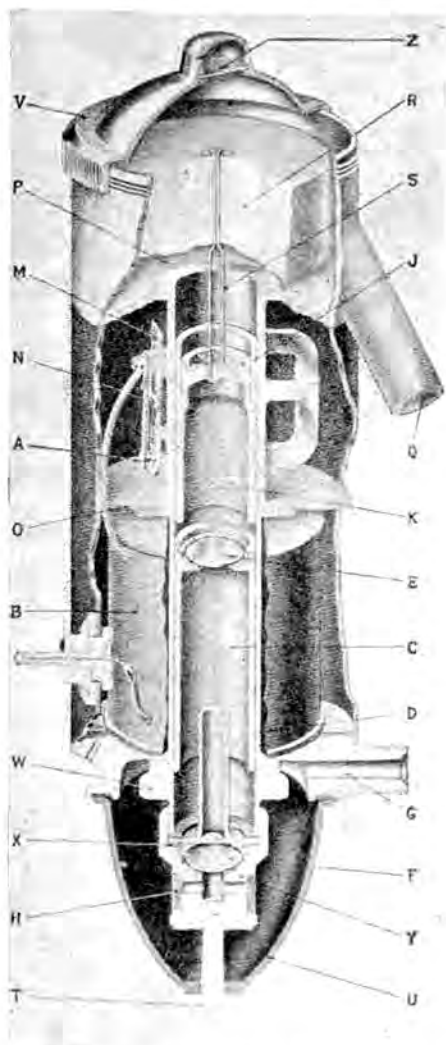

FIG. 32. SECTION THROUGH THE S.U. "PETROLIFT"
1. The pump plungers *C* or *K* (Fig. 32) sticking, due to dirt or grit getting between the pump plungers and the body. Often a blow on the pump with the fist is sufficient to get it working, when the dirt will pass right through. Should it not do so, the remedy is to remove the filter bowl *U* and foot valve *F*, also the top cap of the pump and the cork float, when it will be possible to push the plunger *C* through the bottom, after which a clean rag can be drawn through the bore of the pump. Note, when assembling the plunger of the pump that valve *E* is on top.